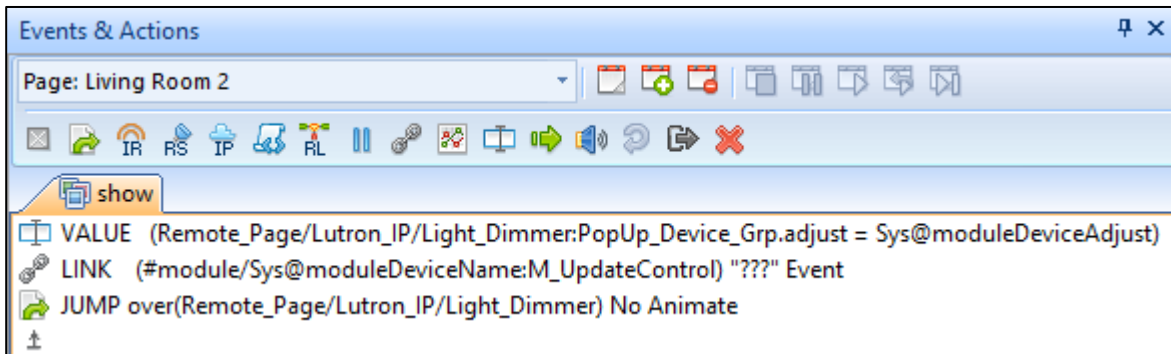

Figure 16 - Page's "Show" Event
- b. For the new page, under Events and Actions, create a “show” event and add these three actions in this order: GUI Action, Link Action, and Page Jump Over Action (Figure 16).